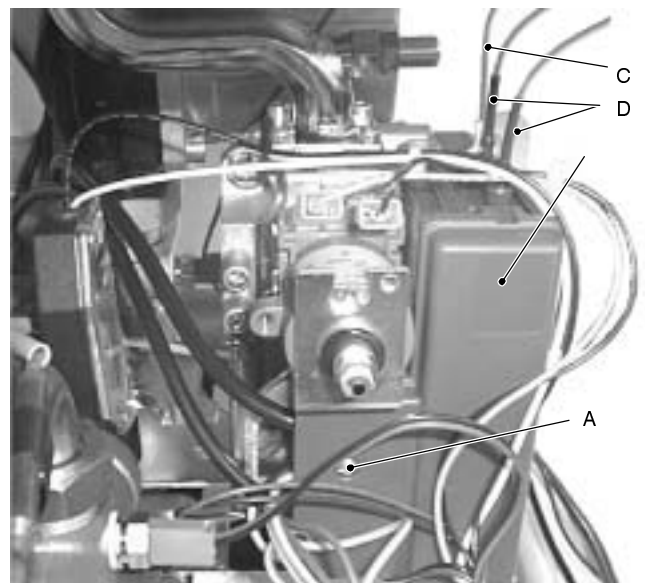

fig. 49
- 2 Unscrew screw *A* and remove the protection cover *B* ; disconnect the flame detection cable *C* and the ignition cables *D* (fig. 49);